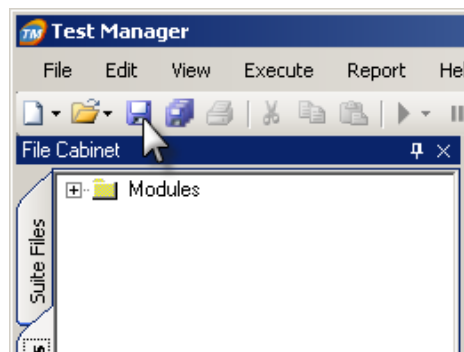

Figure 4-5: Saving the Platform File
7. When the Calibration Wizard is complete, save the Platform File before exiting, as shown in Figure 4-5.